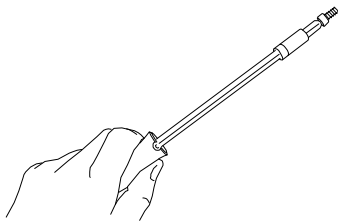

Figure 5 Place screw onto magnetic screwdriver.
- 4 Place a 12mm Allen-head screw onto the magnetic screwdriver. See Figure 5.